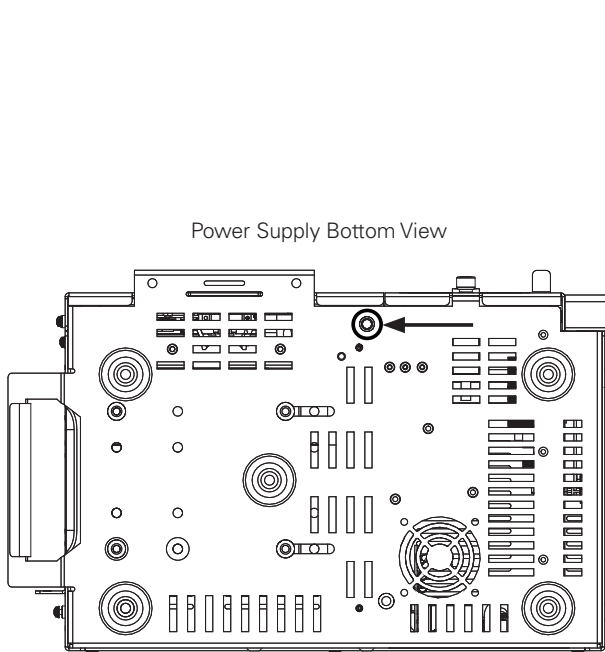

Fig. 2-2, Security Screw Mounting Location
1. Locate the security screw mounting location on the XM3-HP™ power supply (see **Fig. 2-2**).